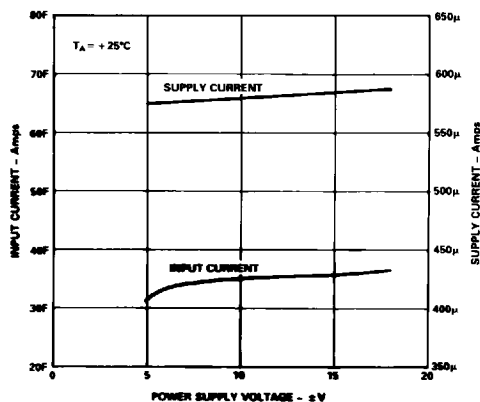

Figure 7. Input Bias Current and Supply Current vs. Supply Voltage
2. The heat dissipation can be reduced initially by careful investigation of the application. First, if possible, reduce the required voltage power supplies, since internal power consumption contributes the largest component of self-heating. The effects of this are shown in Figure 7, which shows typical input bias current versus supply voltage.